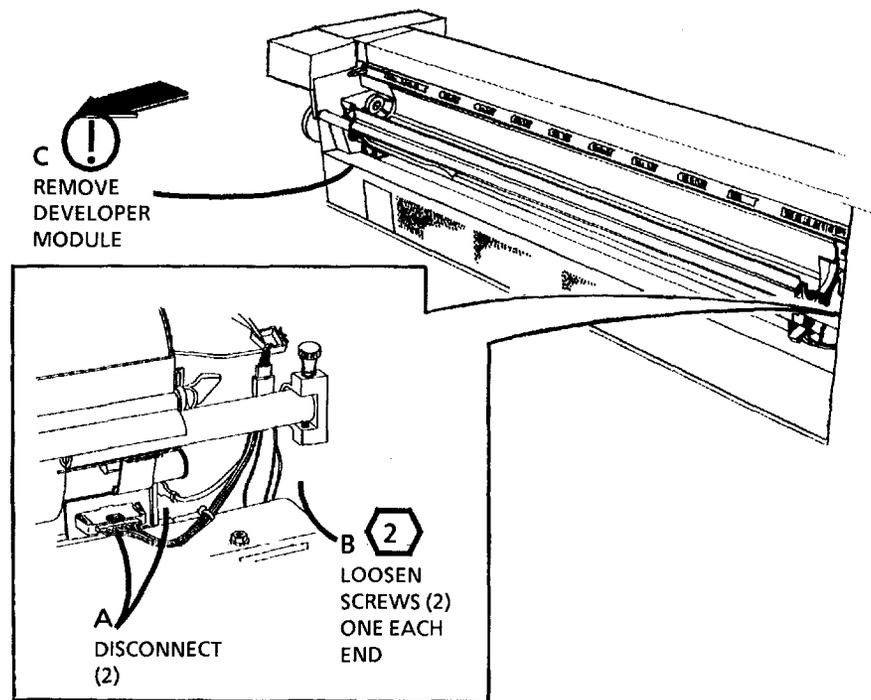

Figure 2. Remove the Developer Module
5. (FIGURE 2): REMOVE THE DEVELOPER MODULE.